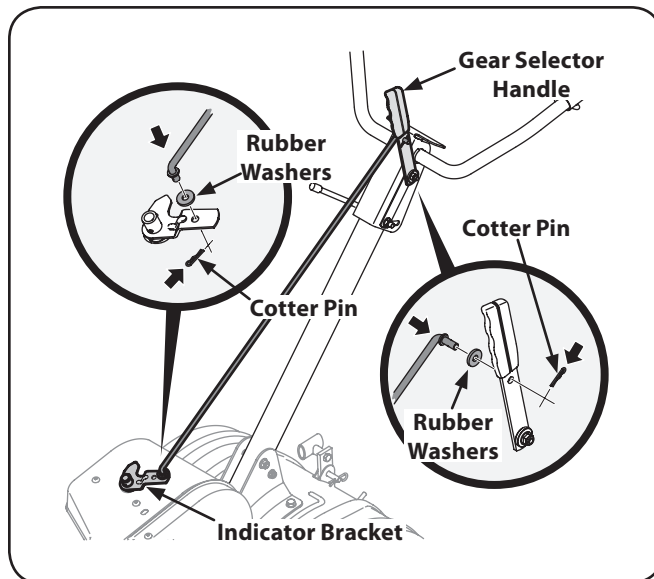

Figure 1-7
3. Insert the shorter (angled) end of the control rod through the indicator bracket on the shift cover and secure with the cotter pin that was previously removed. See Figure 1-7.
4. Insert the longer end of the control rod through the hole in the gear selector handle and secure with the cotter pin. See Figure 1-7.